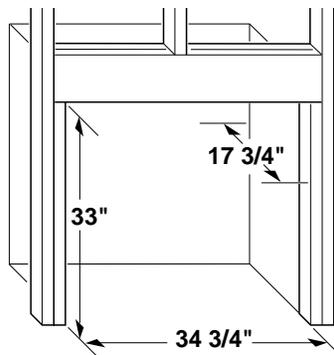
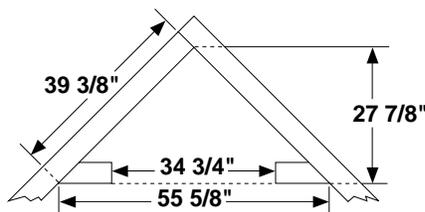

Figure 26 - Rough Opening for Installing in Wall
Figure 27 - Rough Opening for Installing in Corner
- Frame in rough opening. Use dimensions shown in Figure 26 for the rough opening. If installing in a corner, use dimensions shown in Figure 27 for the rough opening. The height is 33" which is the same as the wall opening in Figure 26.